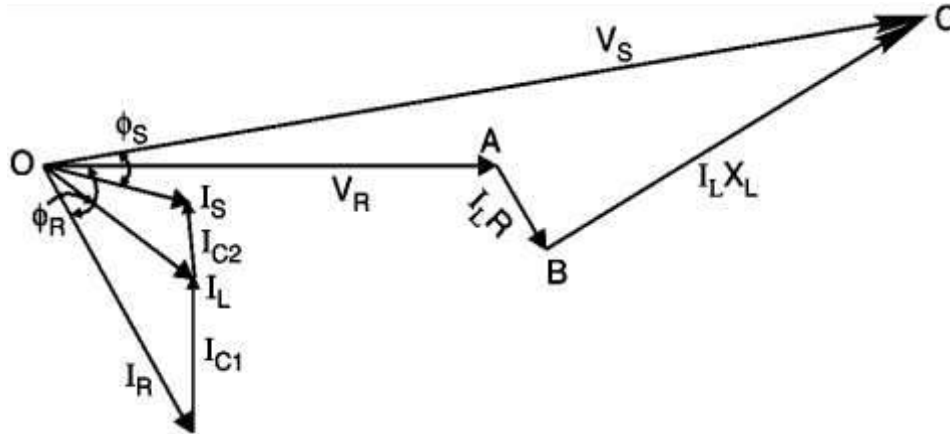

Fig. 32:
- The phasor diagram for the nominal  $\pi$  method is shown in figure 32.